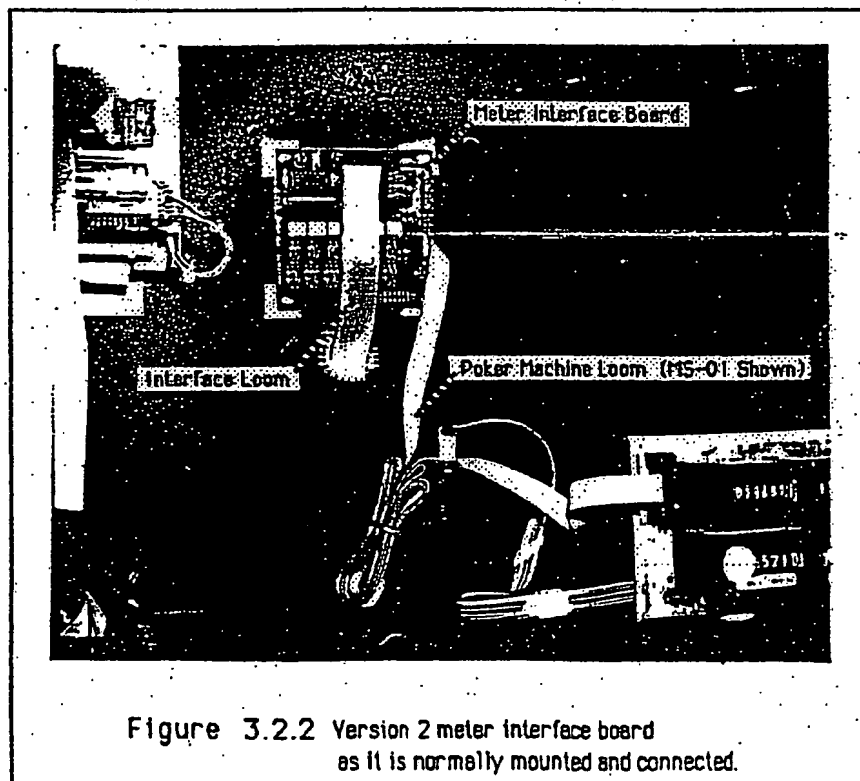

Figure 3.2.2 Version 2 meter interface board as it is normally mounted and connected.
- Figure 3.2.2 Shows the Version 2 meter interface board as it is normally mounted and connected.
Figure. 3.2.2 shows the version 2 meter interface board as it is normally mounted and connected. The normal mounting method for the meter interface boards at the aforementioned installations consists of two strips of double sided adhesive foam tape which fasten the board to the rear panel of the poker machine.